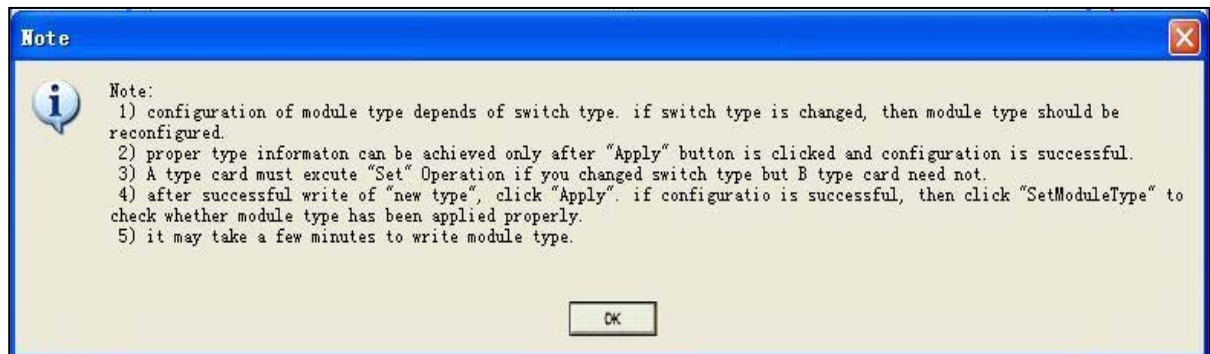

Figure 2-3
Step 3 : Now there pops up the dialog 'Note' as shown in Figure 2-3. Click the button 'OK' to enter the dialog box 'SetMooduleType'.